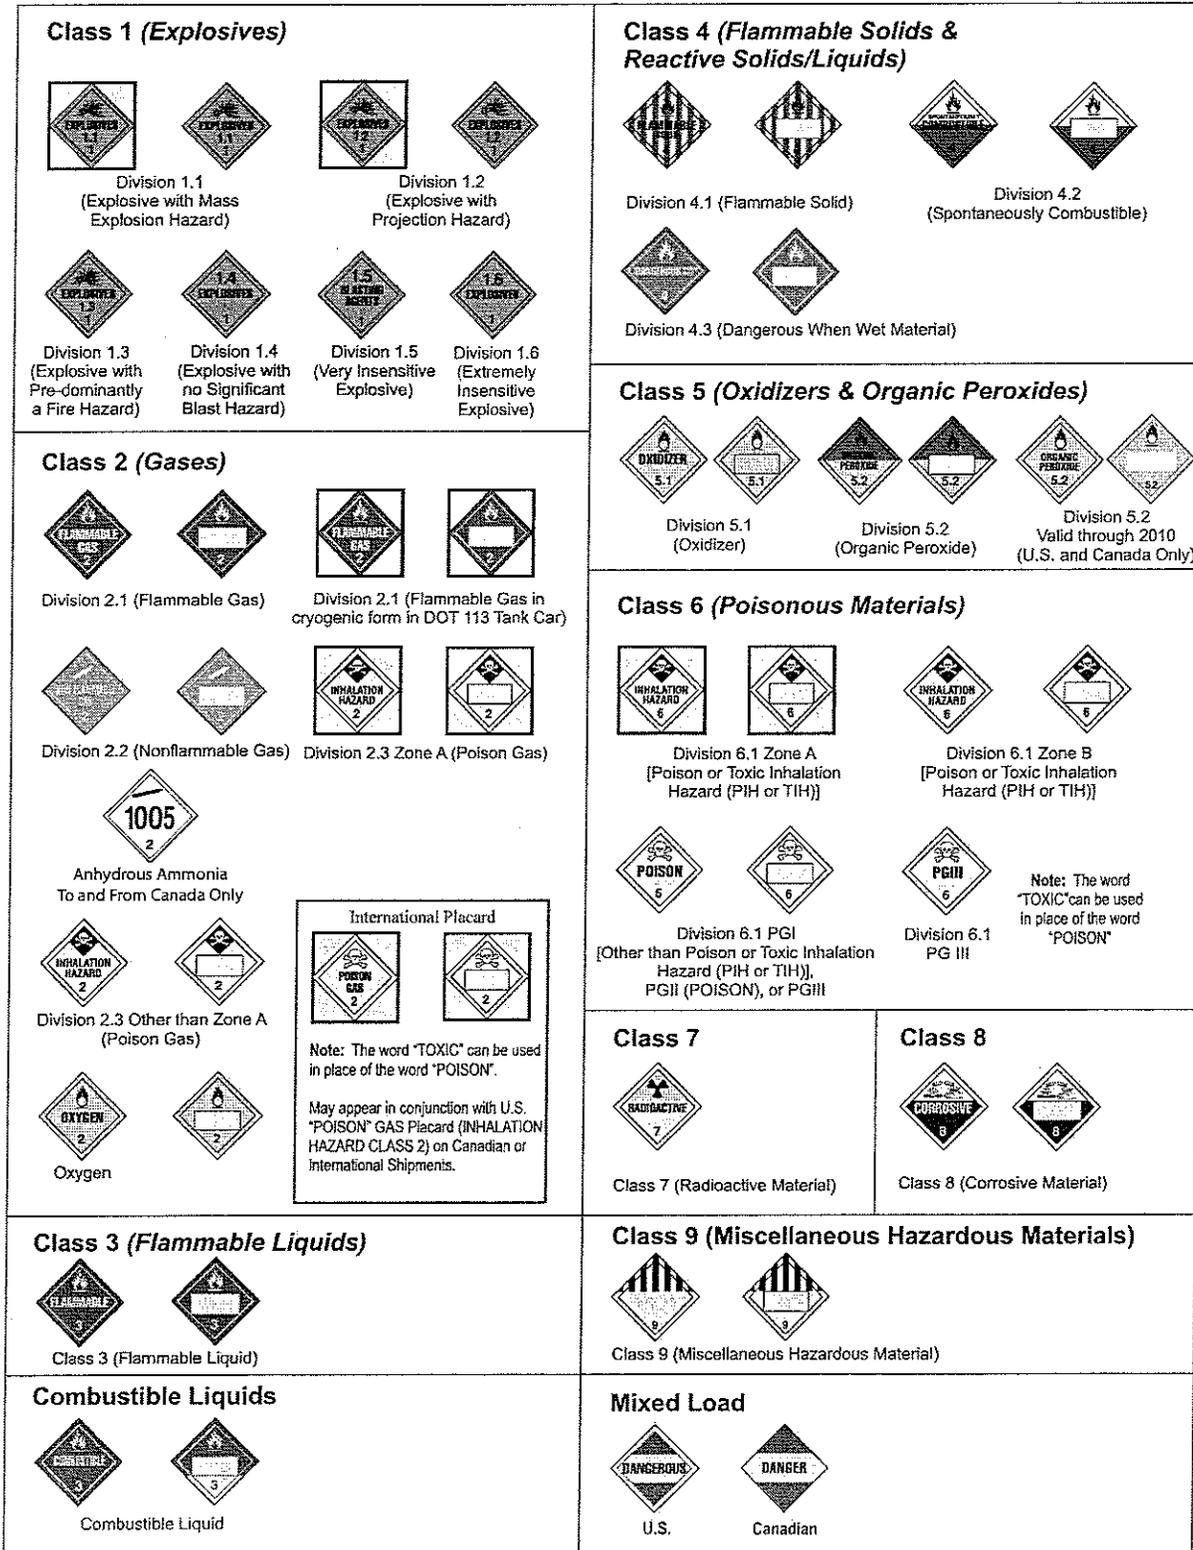

Figure 4. Placard Chart
Placard—a sign measuring 273 mm (10.8 in) by 273 mm (10.8 in) square on point, communicating a hazard by symbol, color, and words or numbers. (see Figure 4 for pictures of placards). Text indicating the hazard is not required on placards other than the DANGEROUS placard. The hazard class text does not have to be in English.
E. Certain hazard classes require the display of the primary placard on a white square background, including (see Figure 4, Placard Chart): (when required to be affixed to the rail car)
- F. The DANGEROUS placard may be used instead of separate placards for each hazard class when a rail car, trailer, or container is loaded with non-bulk packages of two or more classes of hazardous materials from this section's item 2 B.
4. Not damaged, faded - color should be similar to the color printed in this document (see Figure 4, Placard Chart), or obscured by dirt or car part.